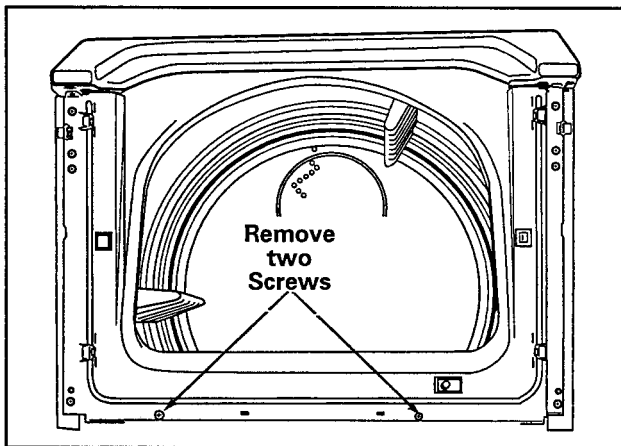

Figure 6-3
3. Remove two screws along the bottom of the front shroud. (See Figure 6-3)